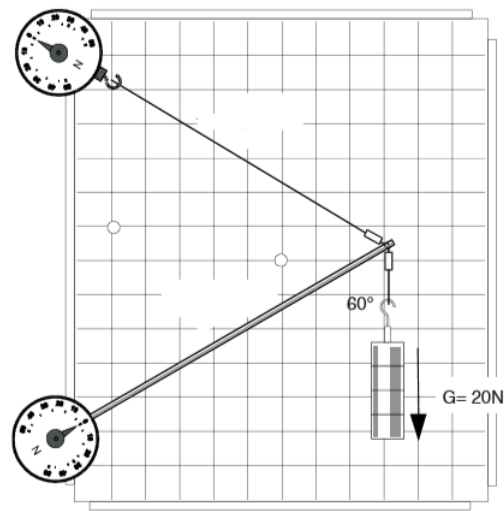

Figure 8: Resolution of forces
- 1) Setup the experimental board as shown in Figure 8, with 20 N.